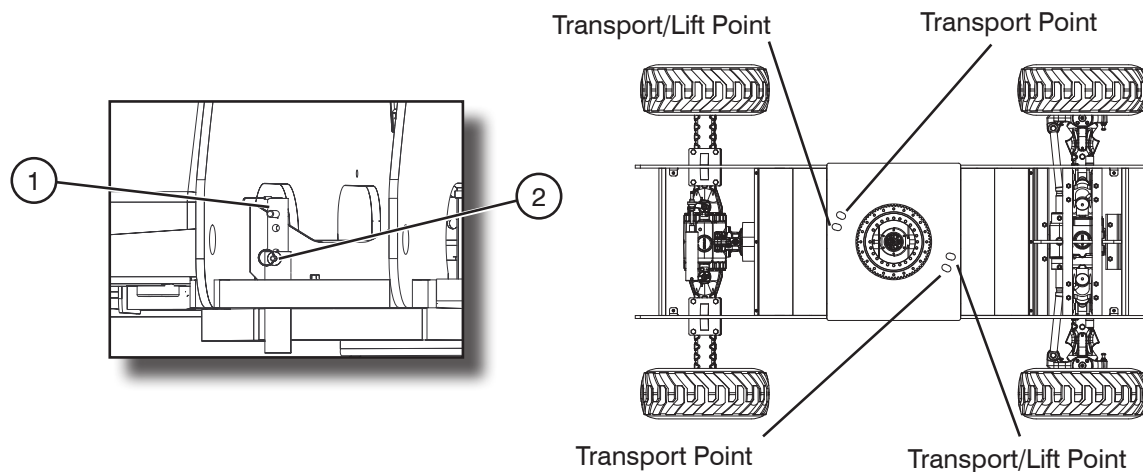

Figure 3-13. 40/45T Turret Transportation Lock & Locking Points
1. Ensure that turret is positioned so that turret transportation lock (item 1 - Figure 3-13) is aligned into one of four turret locking points.
2. Pull out turret lock retaining pin (item 2 - Figure 3-13). Lower turret lock into locked position and reinsert turret lock retaining pin.
1. Place boom in stowed position (boom lowered and fully retracted, jib fully down, if equipped) centered between drive wheels. Lock turret using turret transportation locking pin (refer to Section 3.10-2) into one of two transport/lift points only (refer to Figure 3-13).